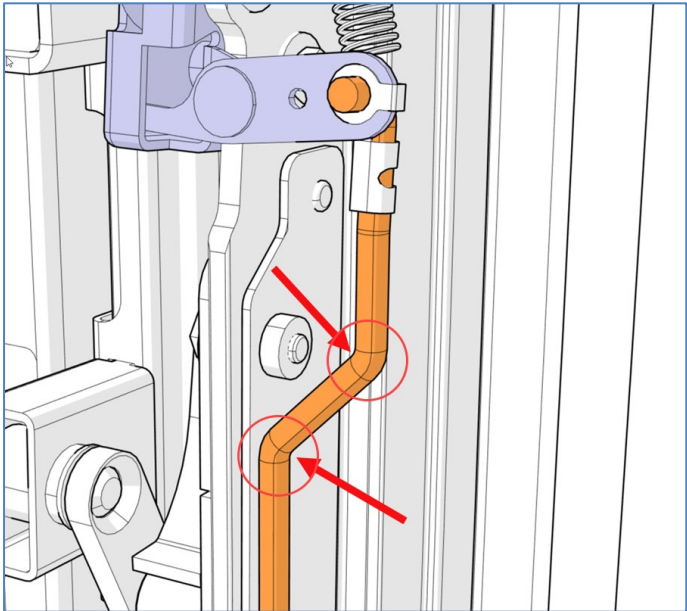

Figure 28
- The rod length should be so that it fit right in both holes on the latches lever, meaning the latches are synchronized. If not, adjust the length of the link rod by bending more or less where shown (Figure 28).